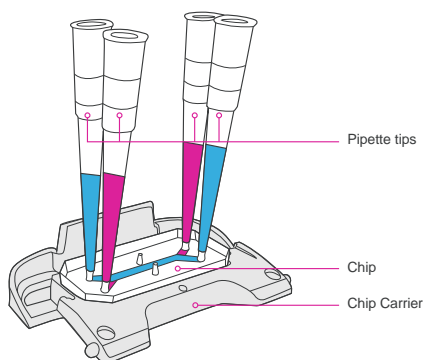

Figure 9 Chip with filtered tips inserted into ports with respective media
2. A wash with 200  $\mu$ L of Complete Maintenance Medium for the top channel and Complete EGM-2MV Culture Medium for the bottom channel per chip will provide nutrients to cells. Since there are two different media being used, these two media must be separated by keeping them in filtered tips instead of drops. (See Figure 9.)